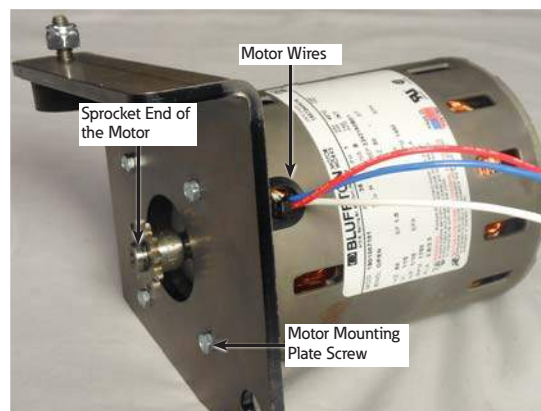

Figure 11. Motor mounting plate
11. Use a 1/4" socket on a ratchet attach the motor mounting plate to the new motor using the new motor mounting plate screws provided in the motor replacement kit. Do not fully tighten. Make sure the motor wires are extending out of the top right of the motor when looking at the motor from the sprocket end. Refer to Figure 11. Using a torque wrench, tighten the motor plate mounting screws to 18–20 in-lbs (2.0–2.2 Nm).